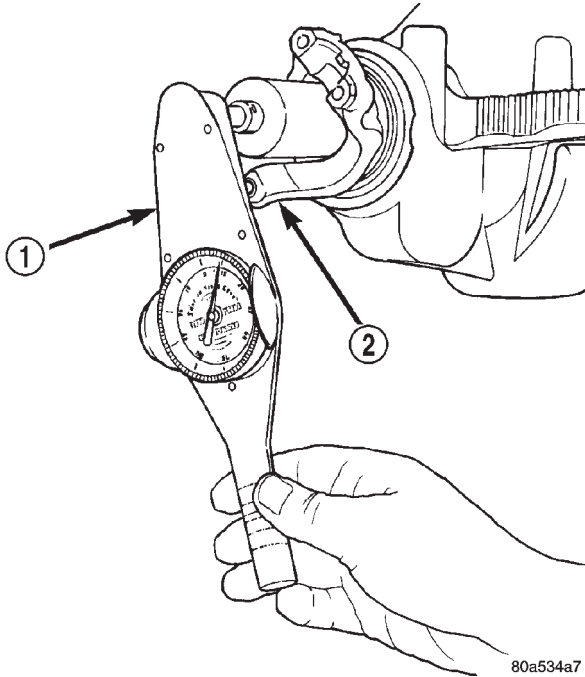

Fig. 49 Check Pinion Gear Rotating Torque
(11) Check bearing preload torque with an inch pound torque wrench (Fig. 49). The torque necessary to rotate the pinion gear should be:
(12) If rotating torque is above the desired amount, remove the pinion yoke and increase the preload shim pack thickness. Increasing the shim pack thickness 0.025 mm (0.001 in.) will decrease the rotating torque approximately 0.9 N·m (8 in. lbs.).
(13) Tighten pinion shaft nut in 6.8 N·m (5 ft. lbs.) increments until the maximum tightening or desired rotating torque is reached. Maximum tightening torque is 271 N·m (200 ft.lbs.).